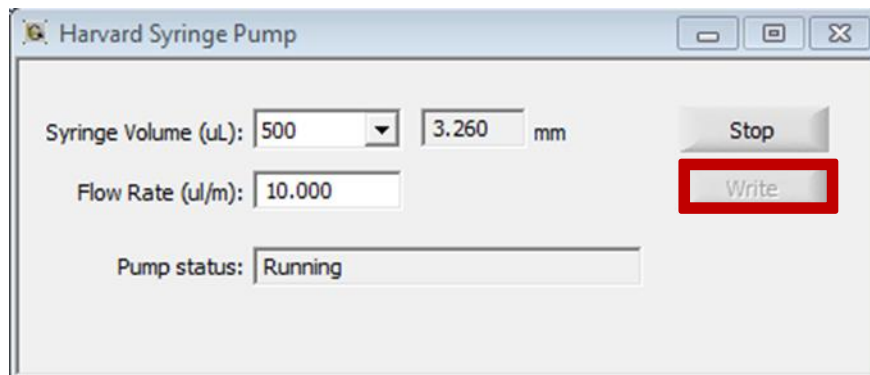

Figure 1.13 – Harvard Syringe Pump window
8. The AI-MS software will operate the syringe pump at 30  $\mu\text{L}/\text{min}$  for a short period of time in order to purge the solvent transfer lines. However, there are instances where the syringe pump will need to be operated at this flow rate for a longer time period to successfully purge the lines of air. In this event, click the “Instrument” tab and select “Harvard Pump” from the drop-down menu. A syringe pump window will open in which the flow rate of the pump can be changed back to 30  $\mu\text{L}/\text{min}$ . If a new flow rate is inputted, **the “Write” button must be pressed to communicate the new flow rate to the instrument** (Figure 1.13).